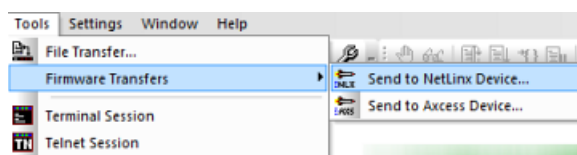

FIG. 27 NetLinx Studio - Tools > Firmware Transfers > Send To NetLinx Device
4. In NetLinx Studio, select **Tools > Firmware Transfers > Send to NetLinx Device** (FIG. 27):